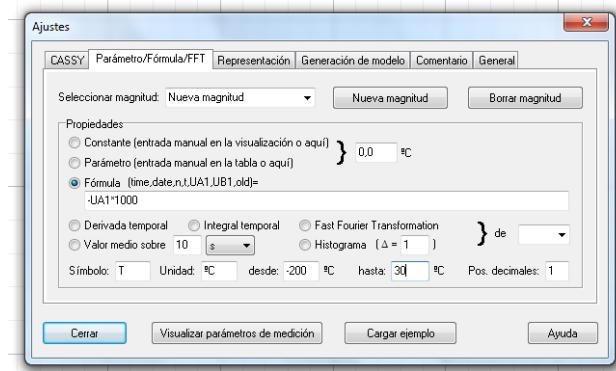

Figure 8. "Parámetro/formula/FFT" of CASSY.
- **Second**, click in the menu: Parámetro/Formula/FFT: select "Nueva magnitud". Click in formula (it must appear time, date, n,t,UA1,...) and write: $-UA1*1000$ (see Figure 8). On doing this the voltage for the temperature is transformed in the value of the temperature